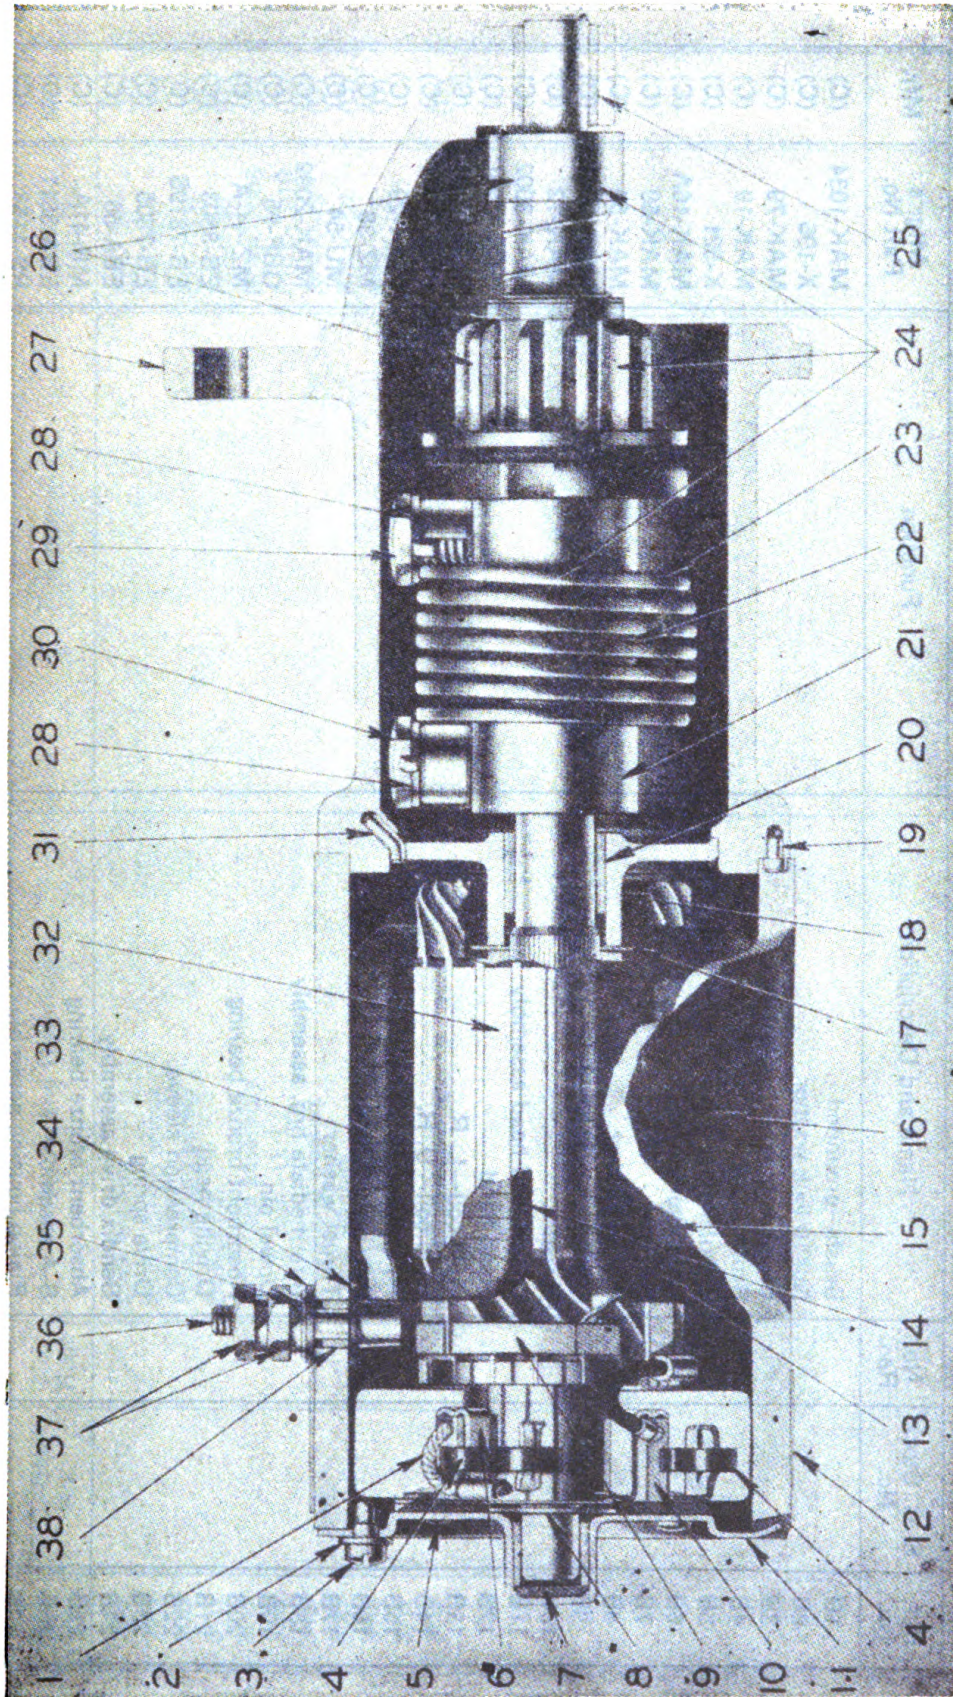

FIGURE 22—STARTING MOTOR—SECTIONALIZED VIEW
i. Starting Motor (Figure 22).